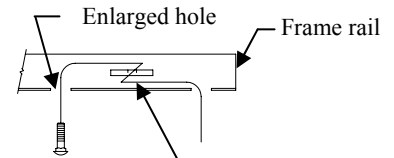

Figure 2.
①	Qty. (4)	Carriage Bolt 7/16-14 X 1.25	③	Qty. (4)	Conical Washer
②	Qty. (4)	Spacer	④	Qty. (4)	Nut 7/16-14
- Detach both (2) rear rubber muffler hangers to lower exhaust.
- Feed the pullwire through the newly enlarged hole, attach spacer and bolt and feed one at a time into the frame rail. Leave the pullwire attached. Repeat on both frame rails as shown in Figure 2.